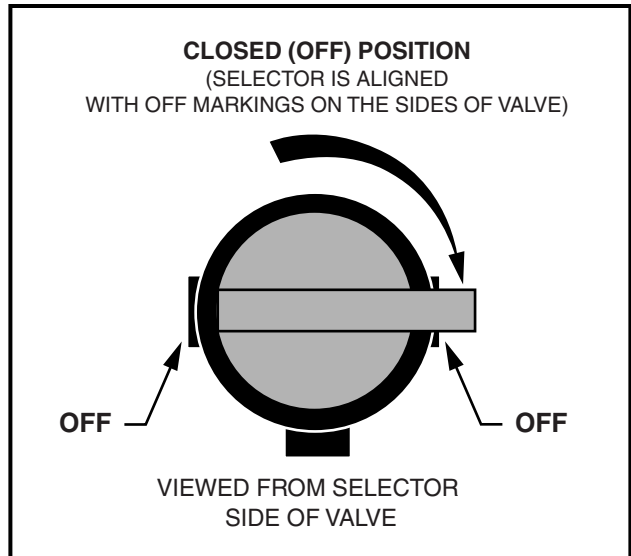

Figure 3-7 Fuel Valve - Closed
- 5.1.2. Turn the fuel shut-off valve to the closed (OFF) position (**Figure 3-7, Page 3-4**) and run the engine until it stalls. **See DANGER "Do not operate gasoline vehicle..." in General Warning, Section 1, Page 1-1.**
- 5.2.1. Turn the fuel shut-off valve to the closed (OFF) position (**Figure 3-7, Page 3-4**) and run the engine until it stalls. **See DANGER "Do not operate gasoline vehicle..." in General Warning, Section 1, Page 1-1.**